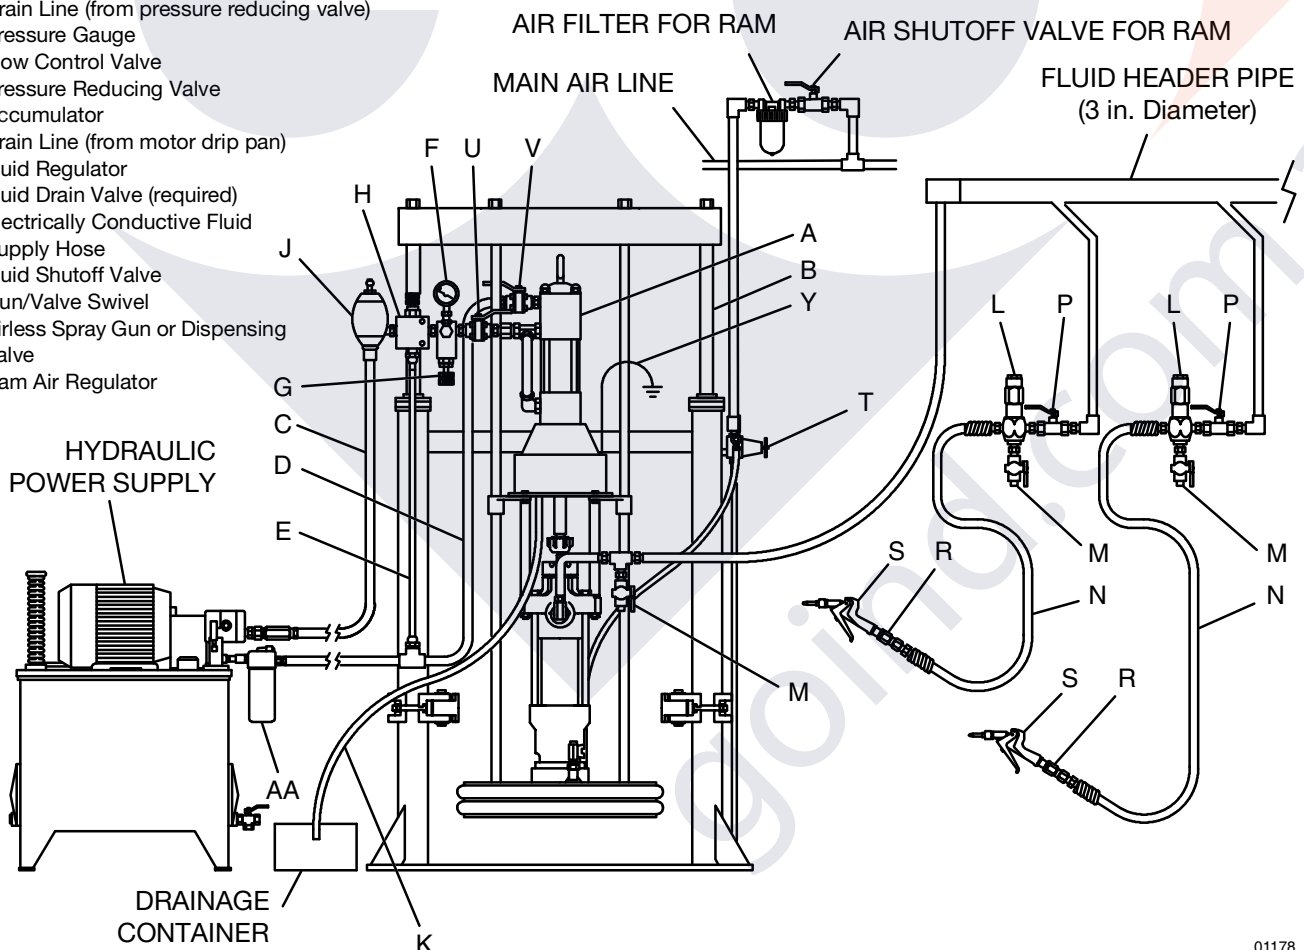

Fig. 4
The Typical Installation shown in Fig. 4 is only a guide for selecting and installing system components and accessories. Contact your Graco distributor for assistance in designing a system to suit your particular needs.
Mount the pump (A) to suit the type of installation planned. Fig. 4 on page 10 illustrates a ram-mounted pump in a multi-gun header system. Pump dimensions and the mounting hole layout are shown on pages 36 and 37.
On the hydraulic supply line (C), install the following accessories in the order shown in Fig. 4, using adapters as necessary:
- **A shutoff valve (U)** to isolate the pump for servicing.
- **A fluid pressure gauge (F)** to monitor hydraulic oil pressure to the motor and to avoid overpressurizing the motor or displacement pump, and **a pressure and temperature-compensated flow control valve (G)** to prevent the motor from running too fast and possibly damaging itself.
- **A pressure reducing valve (H), with a drain line (E)** running into the hydraulic return line (D).
- **An accumulator (J)** to reduce the hammering effect caused by the motor reversing direction.
On the hydraulic return line (D), install the following accessories in the order shown in Fig. 4, using adapters as necessary:
- **A shutoff valve (V)** to isolate the pump for servicing.
- **A filter (AA)** of 10 micron size.
Install the following accessories in the positions shown in Fig. 4, using adapters as necessary:
- Install a **fluid shutoff valve (P)** at each gun drop, to isolate the gun and fluid accessories for servicing.
- Install a **fluid drain valve (M)** near the pump fluid outlet, and at each gun station. The drain valves are required in your system to relieve fluid pressure in the displacement pump, hose and gun (see the **WARNING** at left). Drain valves at the gun stations may be mounted in the base of a **fluid regulator (L)**, using an adapter.
- **A fluid regulator (L)** controls fluid pressure to the gun/valve, and dampens pressure surges.
- **A gun or valve (S)** dispenses the fluid. The gun shown in Fig. 4 is a high pressure dispensing gun for highly viscous fluids.
- **A gun swivel (R)** allows freer gun movement.
Refer to Fig. 4 on page 10. Check the hydraulic fluid level before each use, and add fluid as necessary. Make certain that the supply line shutoff valve (U) and the return line shutoff valve (V) are closed, then start the hydraulic power supply.